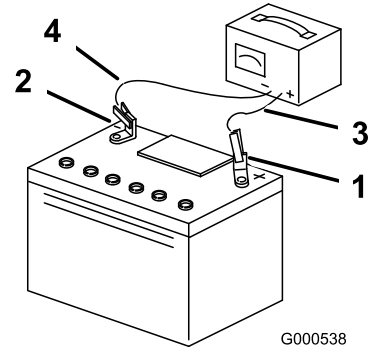

Figure 48
- 3. When the battery is fully charged, unplug the charger from the electrical outlet, then disconnect the charger leads from the battery posts (Figure 48).